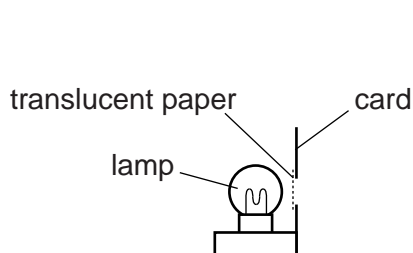

Fig. 4.1
- (ii) Illuminated object with a triangular hole of height 1.5 cm (see Figs. 4.1 and 4.2). The hole is to be covered with thin translucent paper (e.g. tracing paper). See notes 1 and 2.